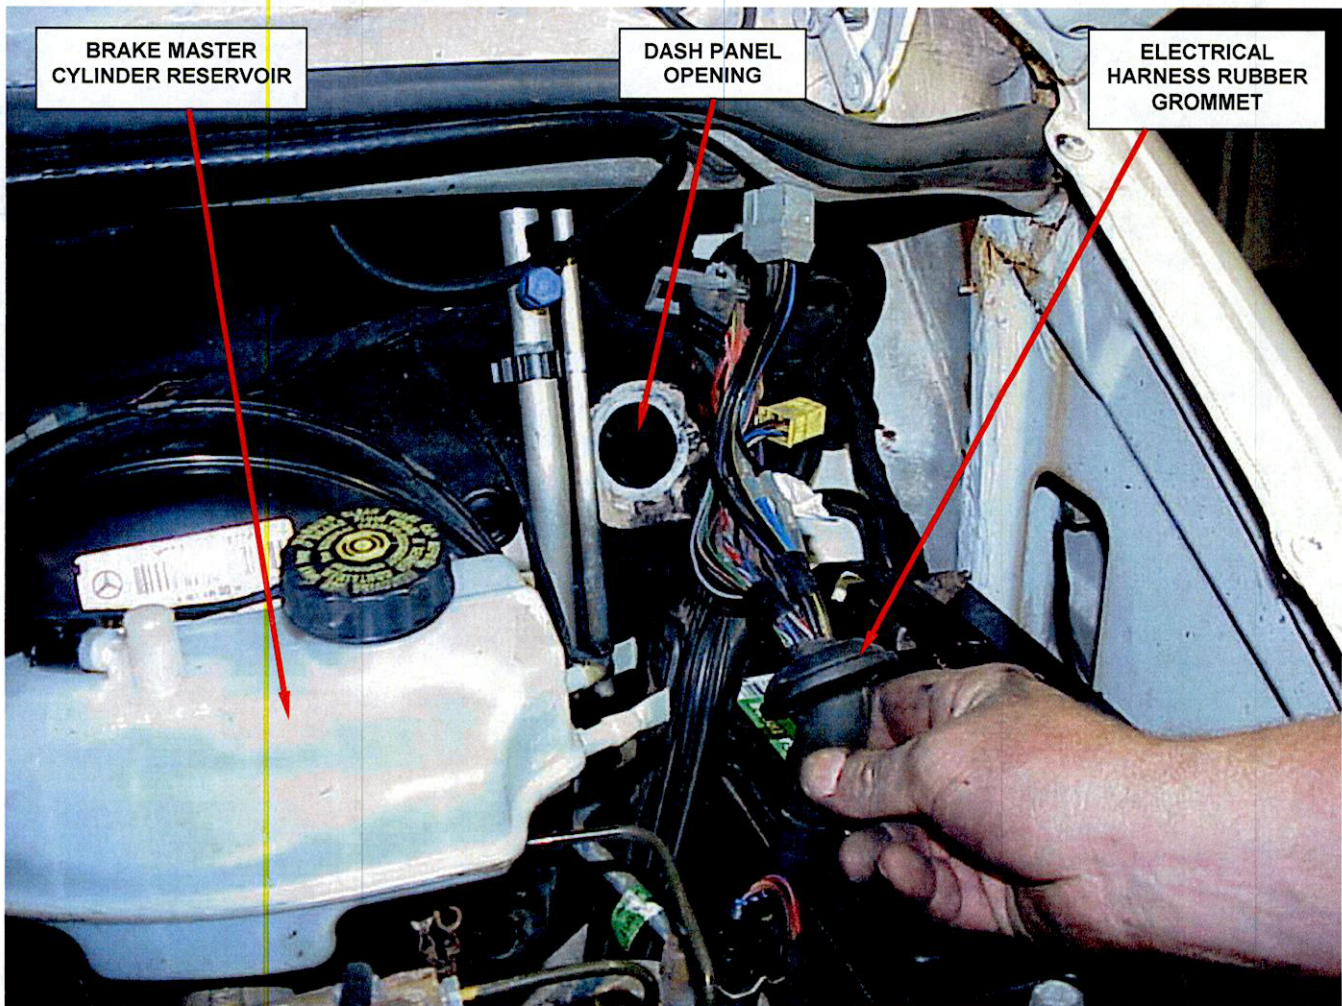

Figure 5 – Electrical Wire Harness Removal
- a. Disconnect the three engine electrical wiring harness connectors located under the instrument panel (Figure 5).
- b. Disengage the dash panel engine electrical harness rubber grommet from the dash panel (Figure 5).
- c. Pull the harness out of the dash panel opening (Figure 5).